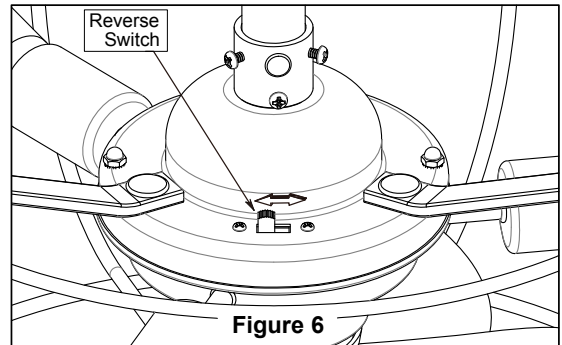

Figure 6
- If airflow is desired in the opposite direction, turn the fan off and wait for the blades to stop turning. Slide the reverse switch on top of motor assembly to the opposite position and turn fan on again (Figure 6)